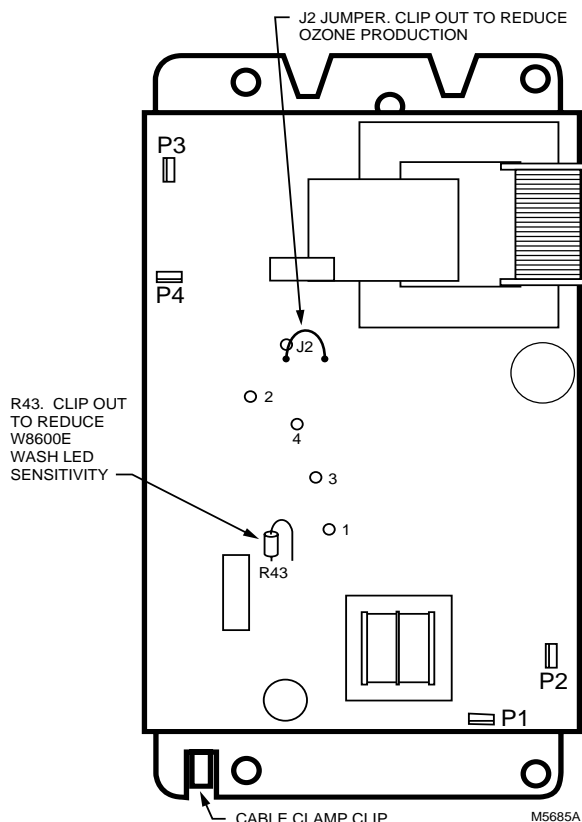

Fig. 31. Clip out J2 jumper to reduce ozone production about 20 to 25 percent.
- d. Find the J2 jumper and clip it out. See Fig. 31.